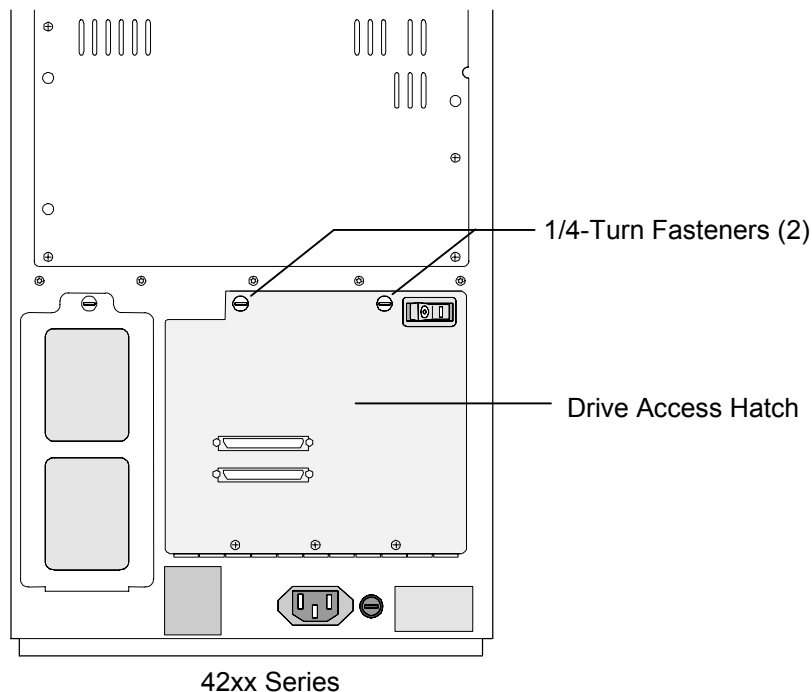
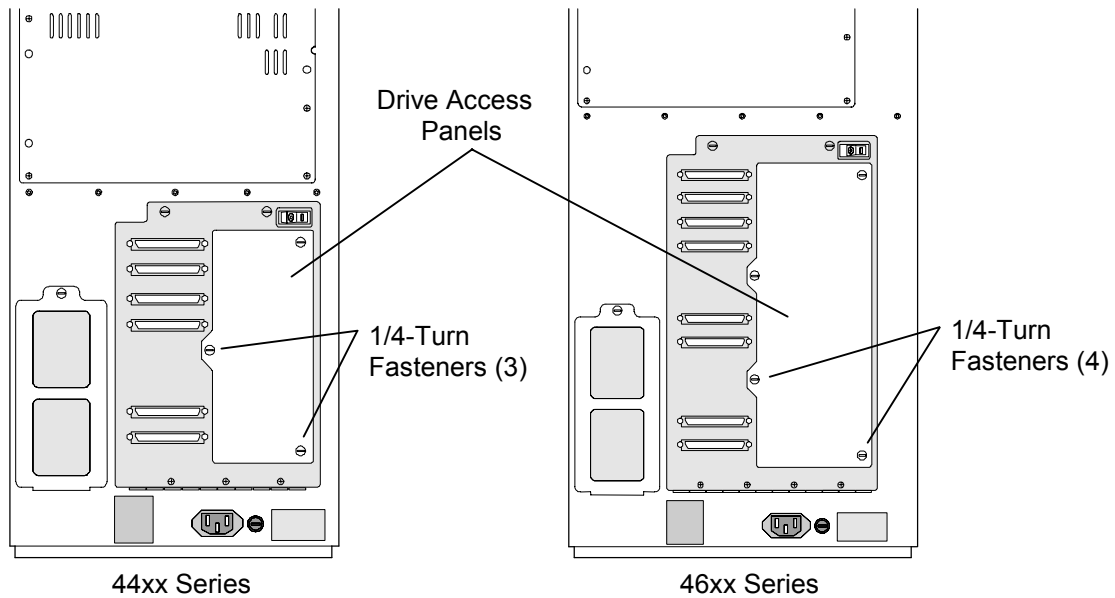

Figure 19 TLS Rear View (42xx shown)
Figure 20 TLS Rear View (44xx and 46xx shown)
2. On TLS-42xx series libraries, open the Drive Access Hatch at the rear of the TLS by turning its two 1/4-turn fasteners one quarter-turn counter-clockwise (see Figure 19). On all other models, remove the Drive Access Panel at the rear of the TLS by turning the three to five 1/4-turn fasteners one quarter-turn counter-clockwise (see Figure 20 or Figure 22).